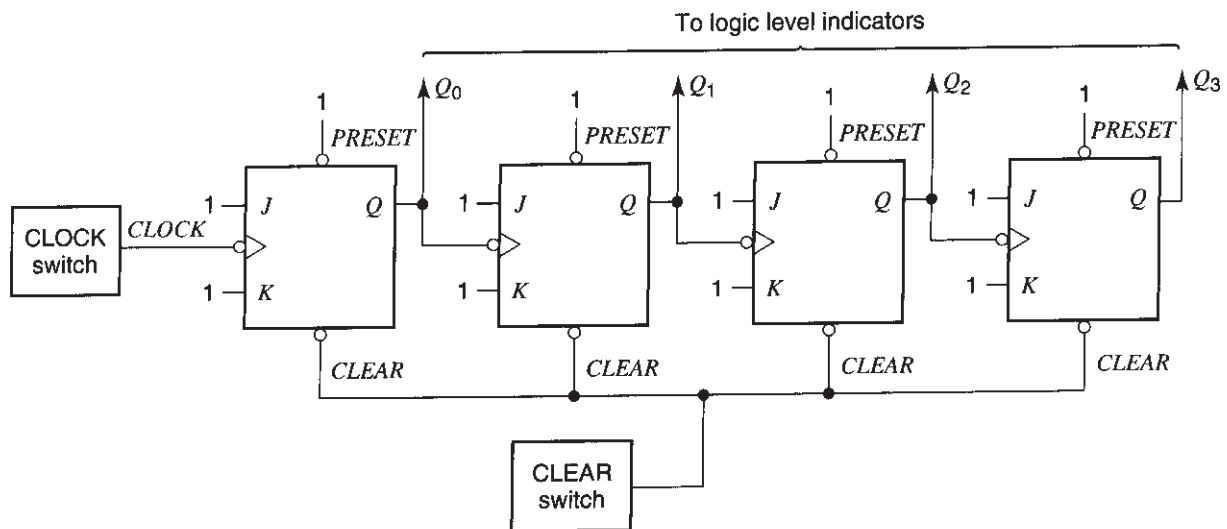
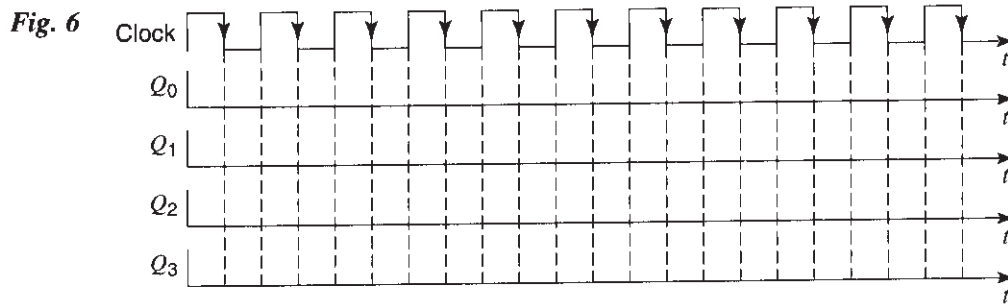

Fig. 5
Fig. 6
Logic level indicators should be available on a digital breadboard. Otherwise, you can make these indicators as shown in Experiment 15, Fig. 5.
5. Consider the ripple counter shown in Fig. 5, *but do not build it yet*. Assume all outputs are cleared. Assume that the clock button is hit repeatedly, resulting in the clock waveform shown at the top of Fig. 6. Complete the waveforms for  $Q_0$ ,  $Q_1$ ,  $Q_2$  and  $Q_3$ . (*Hint: According to what you found above, each flip-flop output will toggle each time the clock input of that flip-flop goes from high to low.*)1
6. Now build the circuit of Fig. 5. Two JK flip-flops can be found in one 74LS112 chip, so you will need two such chips. The pin assignment has been given in Fig. 3. You can mark the pin numbers directly on Fig. 5 to make connecting easier. *Be sure you connect*
the ground and supply pins. The PRESET inputs should be permanently connected to a logic 1, as shown in Fig. 5.
8. Clear the outputs. Consider the combined outputs  $Q_3 Q_2 Q_1 Q_0$  as a binary number, with  $Q_3$  the most significant bit and  $Q_0$  the least significant bit.2 Verify that this number represents the number of times the clock button is hit (or, more precisely, the number of times the clock signal goes from high to low) after the outputs have been cleared. For example, if you hit the clock five times, the binary number  $Q_3 Q_2 Q_1 Q_0$  should be 0101. Explain why this happens, with the help of your diagram in Fig. 6.
11. Lower the frequency of the signal to 1 Hz. *Disconnect the clock switch from the input of the ripple counter of Fig. 5, and connect instead your function generator output, as shown in Fig. 7.* The LED indicator at the output of the function generator should be lighting up one time per second.
14. Use the second channel of the scope and another  $\times 10$  probe to observe the waveform at  $Q_0$ . Using the vertical position control of the scope, place this waveform below the input waveform. Verify that the two waveforms are related as you have drawn in Fig. 6.
15. Move the second probe to  $Q_1$ , and again observe the relation to the input waveform. Verify that it is as you have drawn in Fig. 6. Repeat for the waveforms at  $Q_2$  and  $Q_3$ . At each of these outputs, the circuit is said to accomplish "frequency division." Why? What is the division factor for each output?